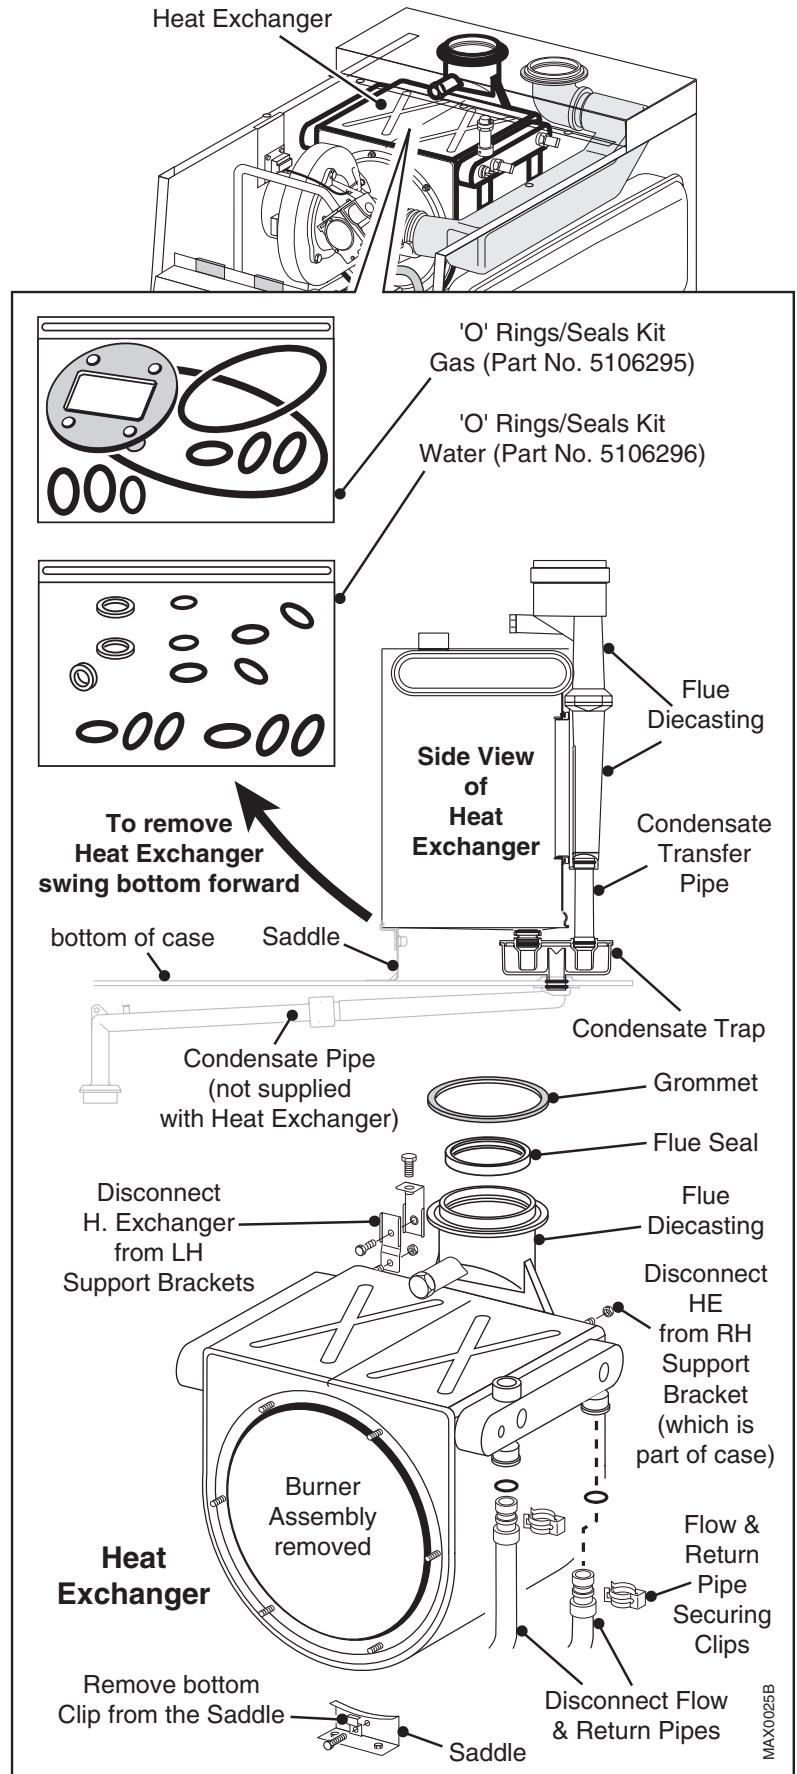

Fig. 24
1. Perform 4.1 General Access. Refer to Fig. 24, Page 35.
6. Disconnect flue pipe. Remove "hidden" M6 nut - see Fig. 24, at RH rear of heat exchanger and remove two M6 flanged set screws securing the LH suspension bracket. Support weight of heat exchanger before removing the clip and saddle beneath.